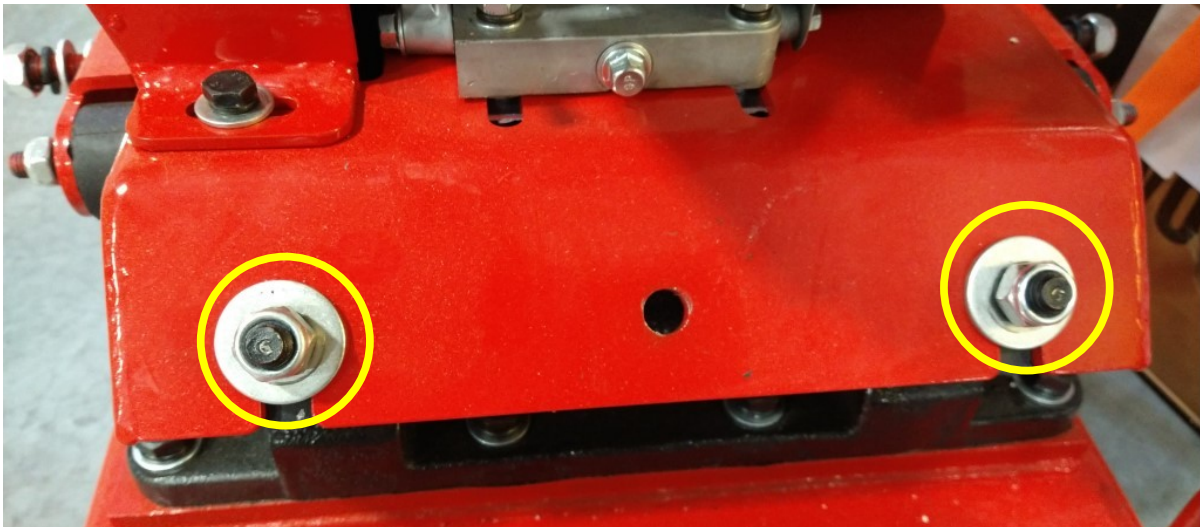

Fig. 6: Remove these nuts and washers (2 each side).
6. Remove the 4 nuts and washers from both sides of the engine support plate (Fig. 6).